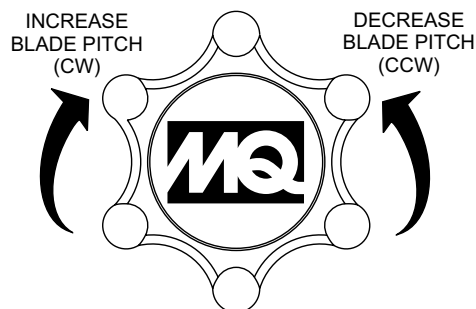

Figure 5. Blade Pitch Star wheel
1. Turn the blade pitch star wheel (Figure 5) fully counterclockwise for no pitch (blades flat).